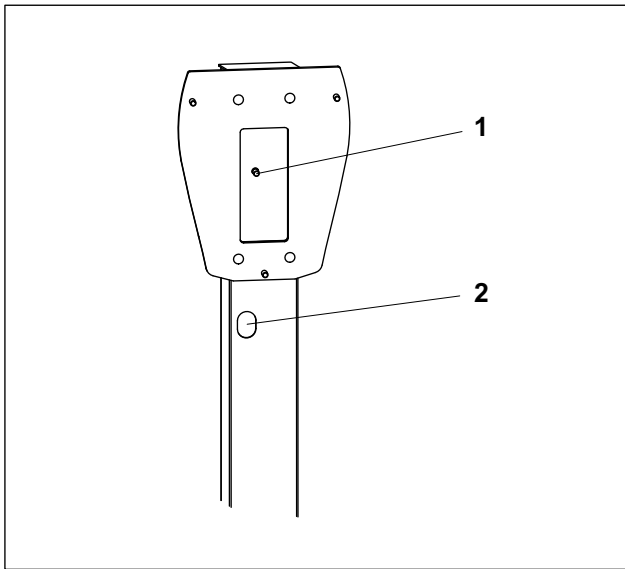

Fig. 6 Grounding point of the column
7. Attach the second cable protecting sleeve (separate parts set) to the cable outlet opening (Fig. 6/2).
9. Connect the equipotential bonding line to the grounding pin (Fig. 6/1) of the column.